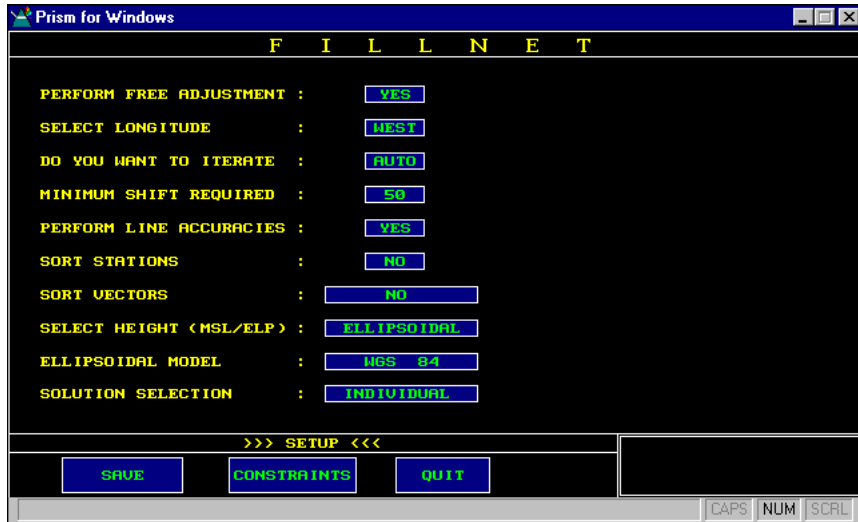

Figure 2.8: SETUP Option
14. Click on the **SETUP** button. The **SETUP** screen should appear, as shown in Figure 2.8.
If you feel that the overall constraints for the adjustment are too restrictive, you can loosen them. To loosen the constraints, click on **QUIT** to return to the main menu and then click on the **SETUP** button. Figure 2.8 on Page 21 shows the **SETUP** menu screen. Click on the **CONSTRAINTS** button to get the constraints parameter box. Enter in the appropriate values for the constraints, and then click on **DONE** and then **SAVE**. Once you have saved the constraint values, click on **QUIT** to return to the main menu and then re-adjust the adjustment in **AUTOMATIC**.